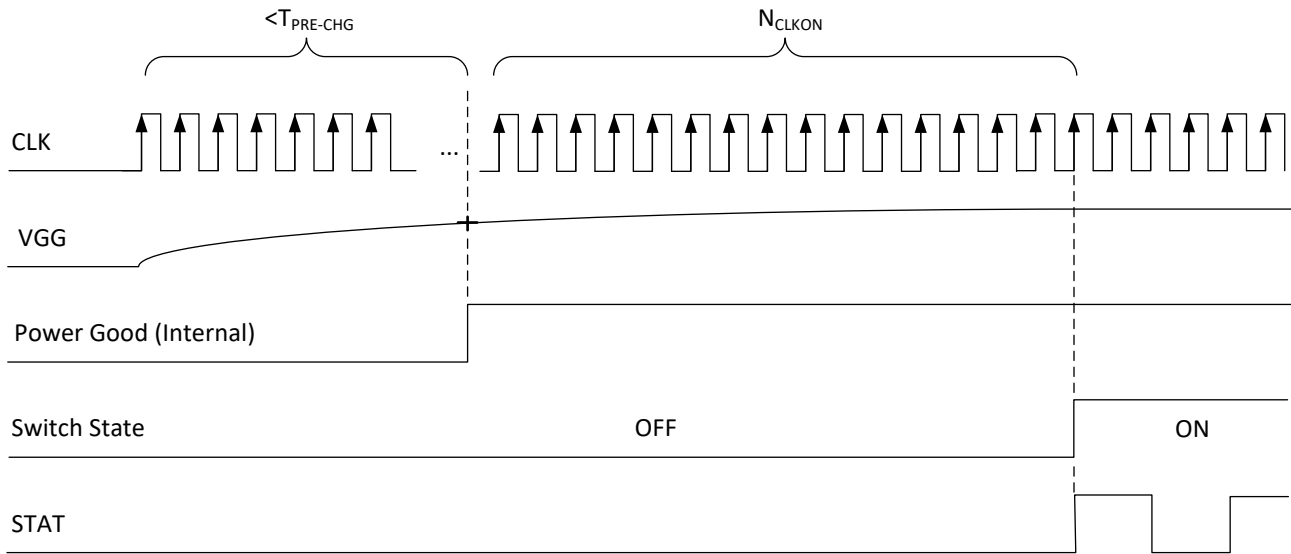

Figure 2: On Sequence
An initial pre-charge period must be provided to the device in order to bring up the local supply, VGG. The switch will be closed a number of clock pulses, N_{CLKON} , after the VGG voltage has reached its internal Power Good threshold. At this point, the switch will transition to the closed (ON) state. This sequence is shown in Figure 2. The on-state of the switch can be verified by the presence of pulses on the STAT pin.